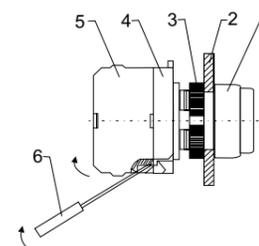

Fig. 4
1) Use a flat screwdriver to prise the mobile clip of the switching element, and then pull the switch from the intermediate body (fig. 4).